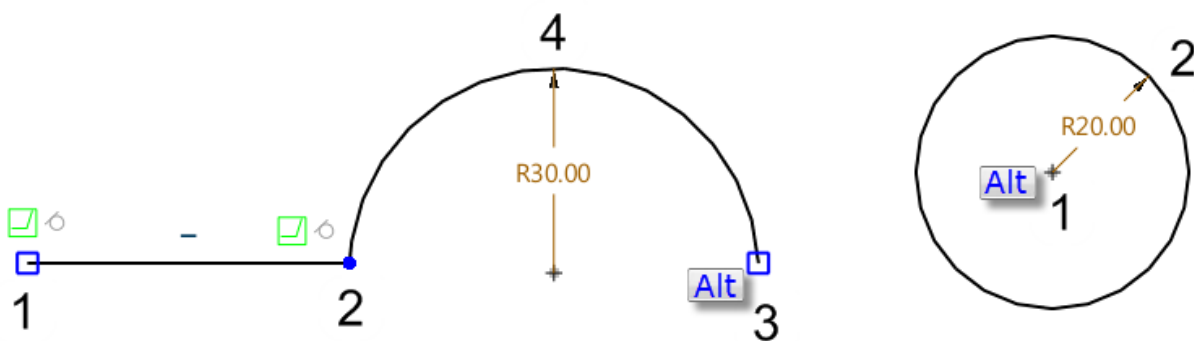

Figure 35 Create a Circle/ Arc with Quick Draw
**STEP 03** Middle-click when you want to terminate Quick Draw. See the Figure 35.